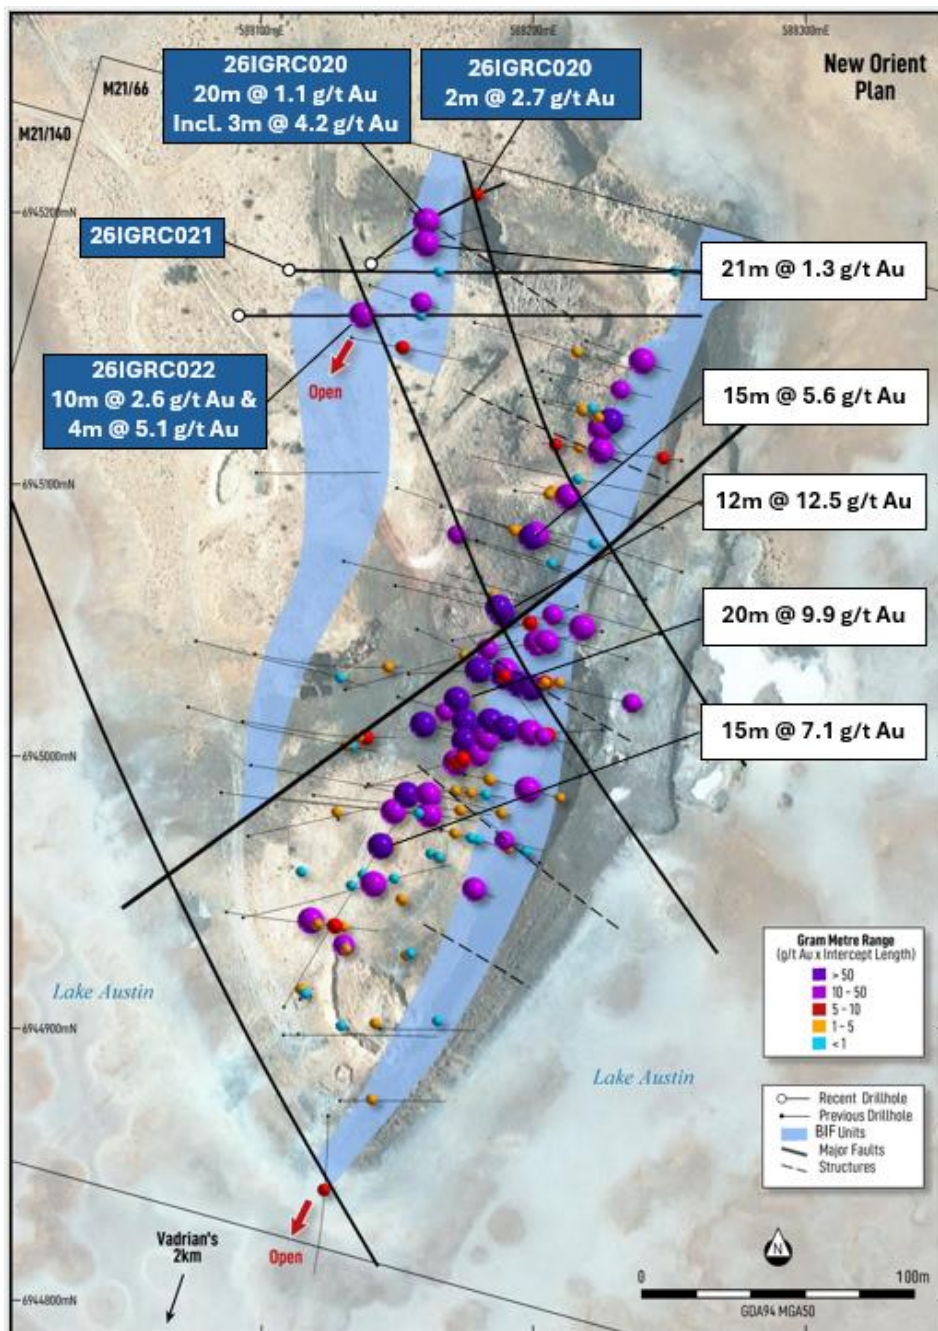

Figure 3: Schematic plan of New Orient Gold Mine showing parallel BIF units (blue), highlighting recent significant drill results (blue boxes).
- New mineralisation is **developing northwest within parallel BIF/Mafic sequences interpreted to accumulate in preferential structural sites, particularly where cross-cutting shears, splays coincide, validating the Company's exploration model** (see Figure 3).
- The ongoing 50,000m air core, RC and diamond drilling (DD) programme continues across the Island.